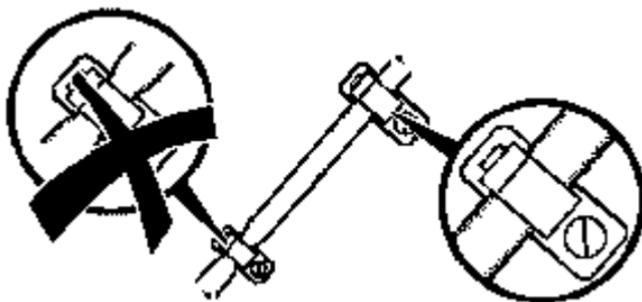

Figure 8 Proper Use of Plastic Clamps
- **Figure 8 for a long pull.** If you are laying cable out for a long pull, use a “figure 8” on the ground to prevent twisting (the figure 8 puts a half twist in on one side of the 8 and takes it out on the other, preventing twists.).
1. Lay cable on floor in a figure 8 pattern.
2. Turn Figure 8 cable 360 degrees (upside down) before continuing.